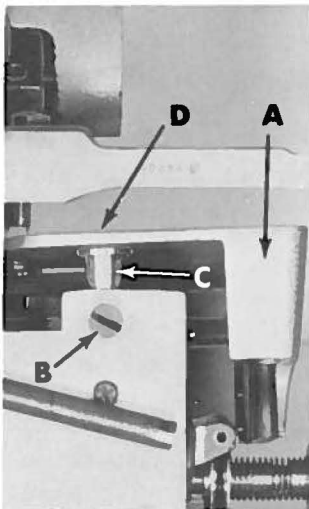

Fig. 4
CAUTION! When removing the cloth plate (A, Fig. 4) loosen the cloth plate stud locking screw (B) and lift up cloth plate with the cloth plate stud (C) and cloth plate screw (D) assembled.